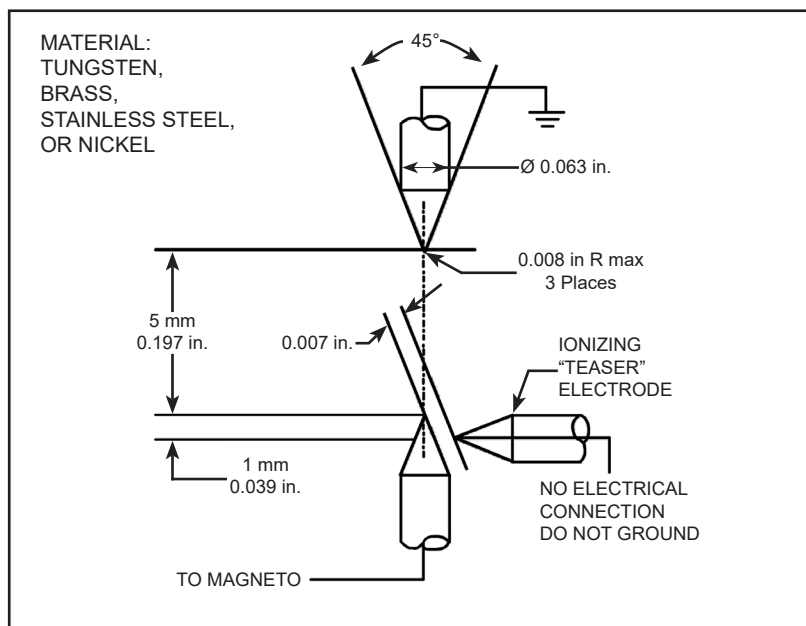

Figure 5.1 – Spark Gap
- B. Install an ignition harness on the magneto and connect each output lead to a 5mm spark gap. Refer to Figure 5.1.